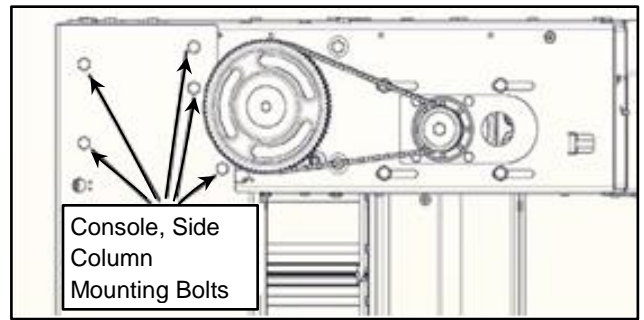

Figure 27
4. Inspect the hex head screws used to secure the head assembly to the side columns. Replace any missing or damaged hardware. (See Figure 27)